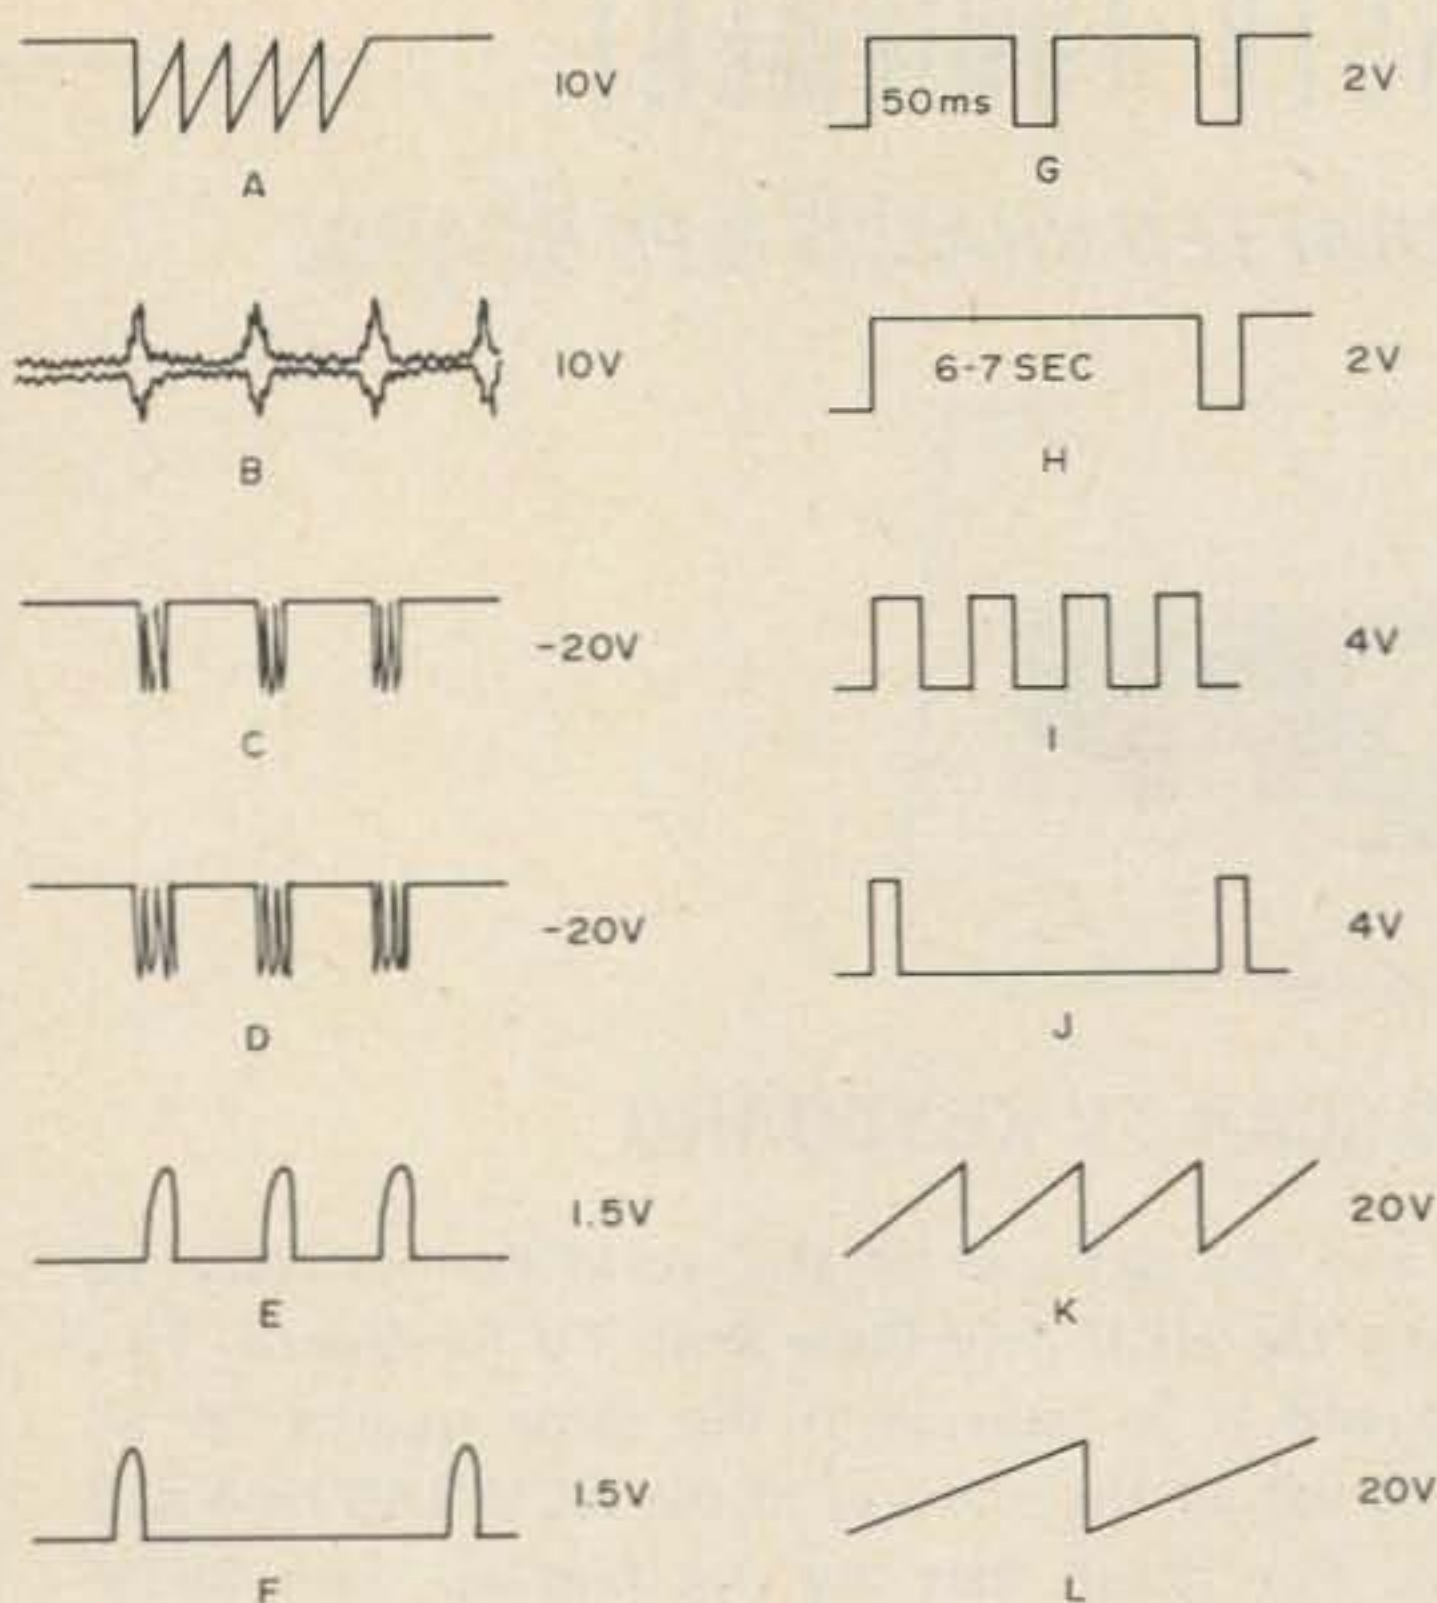

Fig. 4.
- (1) Monitor should be set up with a good slow scan signal.
- (2) With a VTVM check T.P. 9 for -12V, and T.P. 10 for +12V.
- (3) Refer to Fig. 4 for all waveforms.
- (4) With scope probe on T.P. 1, waveform A should be present.
- (5) The 1K sync control adjusts for the 1200 Hz sync freq. T.P. 2 shows the sync signal B.
- (6) Adjust R1 (10K pot) for waveform C.
- (7) Adjust R2 (10K pot) for waveform D.